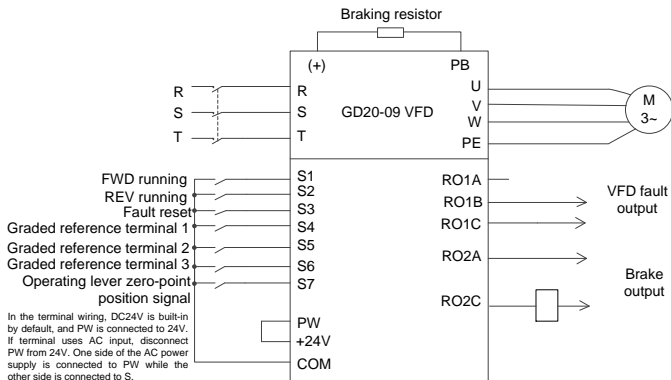

Figure 4-6 Wiring for graded reference operating lever
**Note:** Perform the wiring according to Figure 4-6. If the onsite function terminals are inconsistent with the terminals shown in the figure, manually adjust the input and output terminal functions according to the actual wiring.